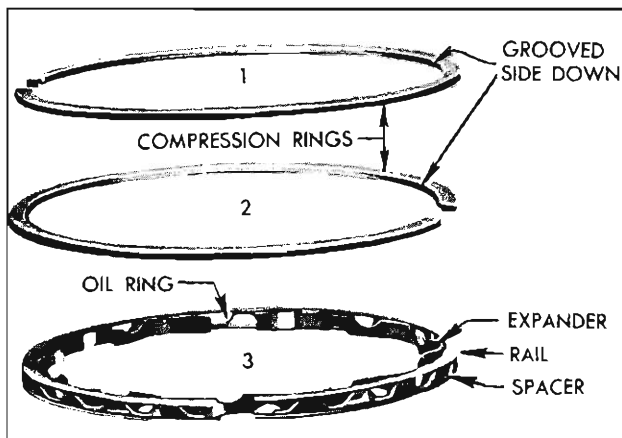

Fig. 3-127 Piston Rings
7. Remove compression rings with expander and remove oil ring by removing the two rails and spacer-expander which are separate pieces in each piston third groove. (Fig. 3-127)